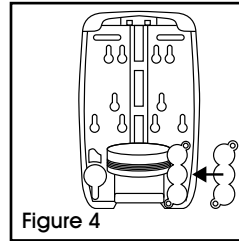

Figure 4
4. Replace battery box cover, being careful not to over-tighten screws. (See Figure 4)